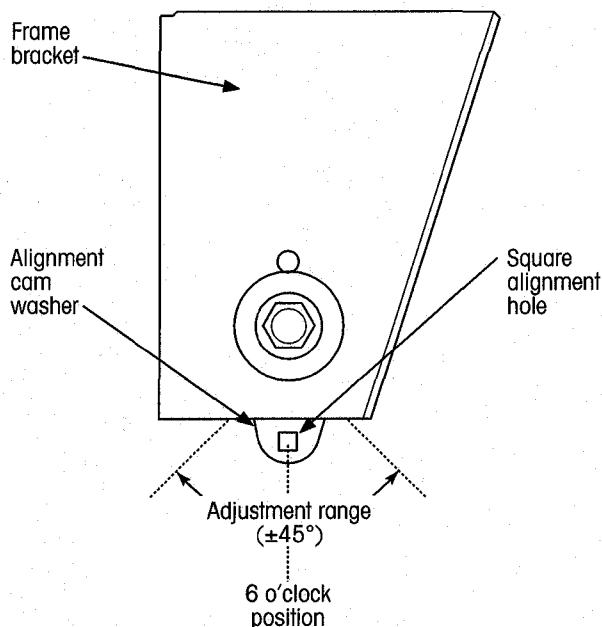

Figure 28: AdvANTage style alignment cam washer orientation details
3. Inspect the orientation of both alignment cam washers (Figure 28). The tab with the square alignment hole must be at the 6 o'clock position (below the frame bracket), which is the middle of the adjustment range.